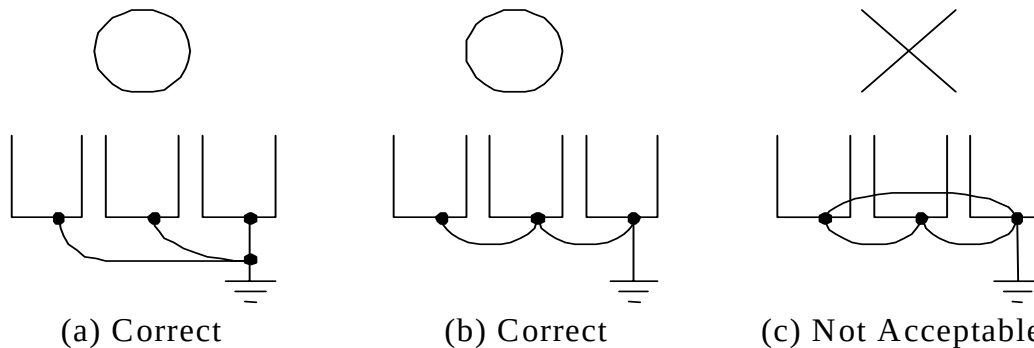

Figure 5 Grounding of C10 Inverters.
- (1) Always use the ground terminal (E) with a ground resistance of less than 100 Ω .
- (2) Never ground C10 with other devices such as welding machines, motors, and other large-current electrical equipment, or ground pole. Run the ground lead in separate conduit from leads for large-current electrical equipment.
- (3) Always use ground leads that comply with AWG standards and make sure the length is as short as possible.
- (4) When using several C10 inverters side by side, it is preferable to ground each unit separately to ground poles. However, connecting all the ground terminals of C10 in parallel while only grounding one of the C10's to the ground pole is also permissible. (Figure 5) Be sure not to form a loop with the ground leads.